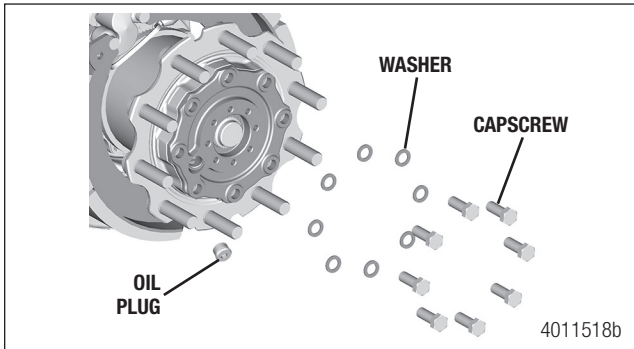

Figure 8.30
3. Install the drive flange onto the hub and fasten with washers and capscrews. Tighten the capscrews to specification. Refer to Section 12 Specifications on page 77. Figure 8.30.